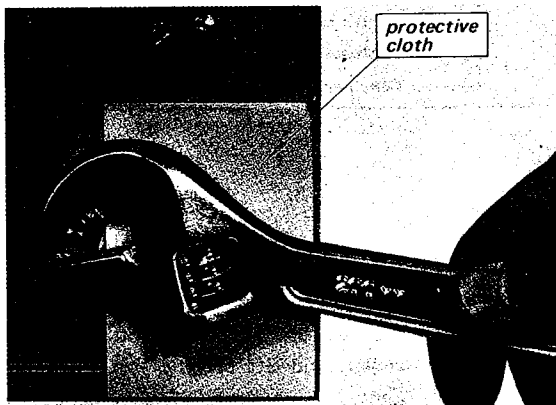
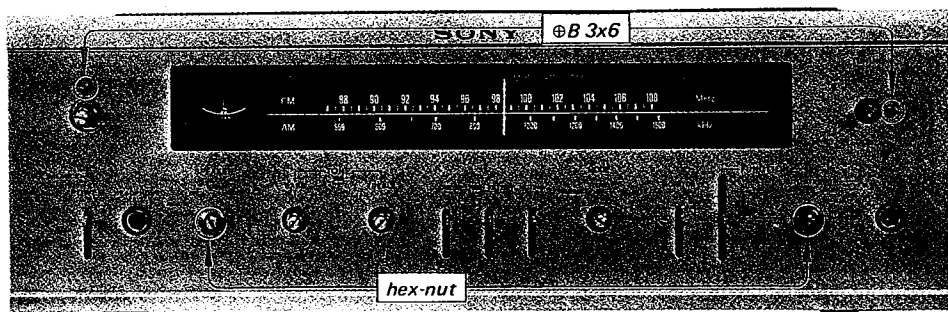

Fig. 2-4. Hex nut removal
Fig. 2-3. Front panel removal
3. Remove the two self-tapping screws ( $\text{Ø}B\ 3\times6$ ) and two hex-nuts securing the front panel to the front sub-chassis as shown in Fig. 2-3. Place a piece of cardboard or cloth between the wrench and front panel to avoid marring the panel as shown in Fig. 2-4. Now the front panel is free for servicing.